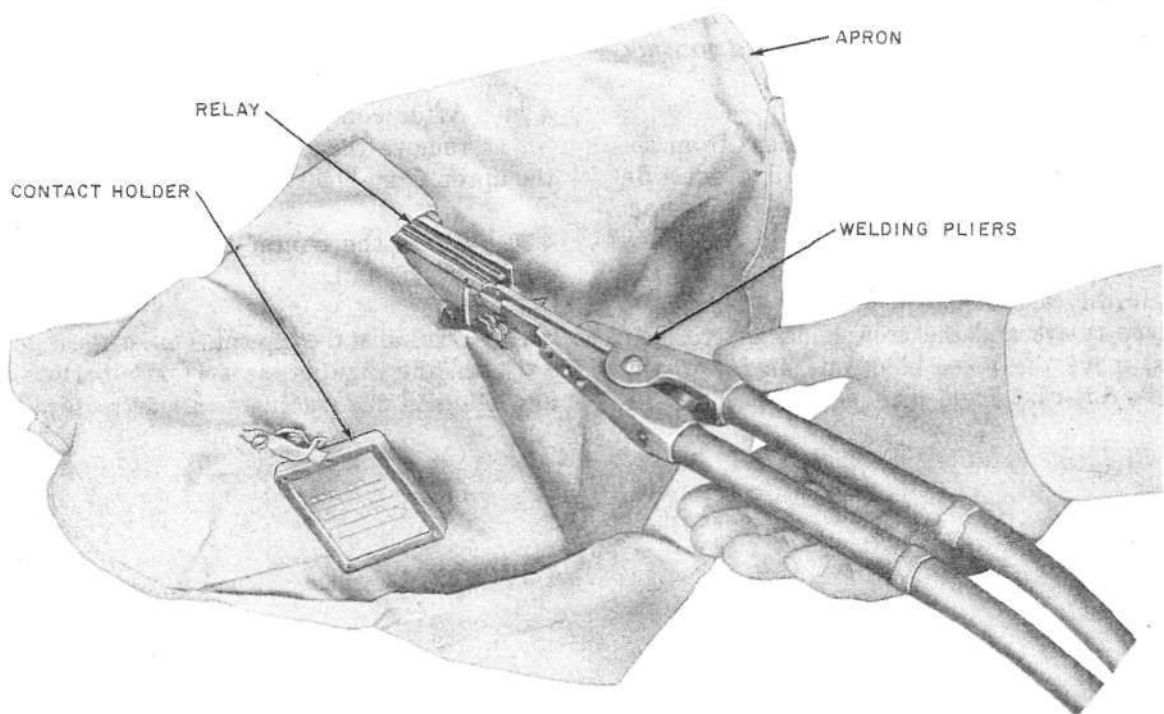

Fig. 10—Welding Pliers in Position for Welding Contact
4.24 After positioning the pliers, as covered in 4.22 or 4.23, shift them slightly so the end of the spring is firmly seated in the notch in the guide. Then, release the pressure on the plier handles, thus holding the contact firmly in position on the spring. (See Fig. 10 and 11.)
- 4.25 Hold the plier handles in a horizontal position with the center line of the pliers in line with the spring as shown in Fig. 10 and, with all hand pressure removed from the handles, depress and release the control button. Holding the control button operated has no effect since the time control relay is held locked until the control button is released. Do not operate the control button more than once for any one welding operation.